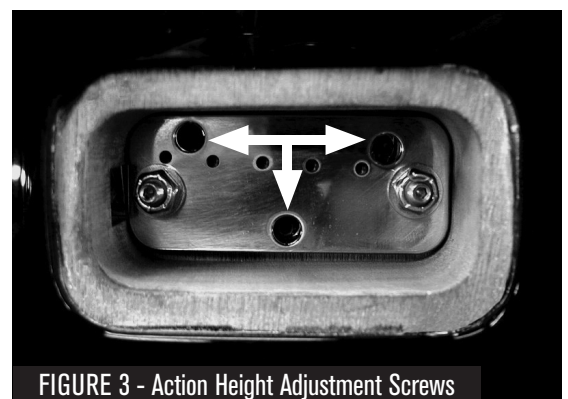

FIGURE 3 - Action Height Adjustment Screws
- Three action height adjustment screws (*Fig 3*) are used to lower and raise the action. Two are located on the outside of the bottom plate (treble and bass) and one in the center toward the back. The center screw is used to stabilize the bridge, not raise or lower it. It should be set after the desired bridge height is secured.